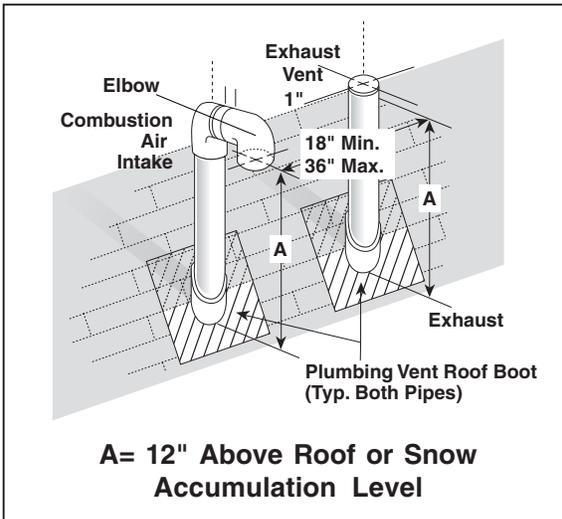

Figure 22. Vertical Vent Termination
Figure 22 shows the proper installation and clearances for vertical vent termination. The roof penetration must be properly flashed and waterproofed with a plumbing roof boot or equivalent flashing. Termination spacing requirements from the roof and from each other must be per Figure 22.
- The termination clearances shown in Figure 22 are maintained.